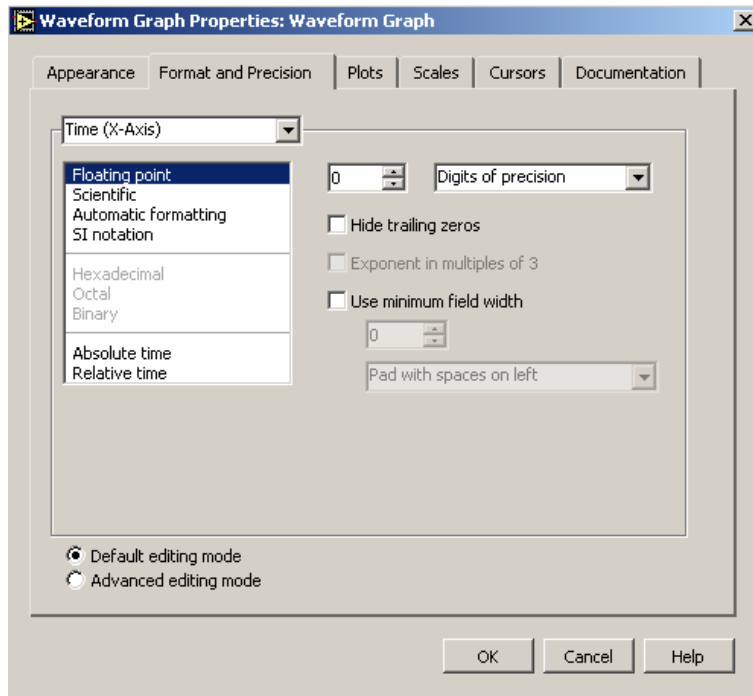

Figure 6.9: Waveform Graph Properties Window
- c. Other options/properties can be accessed by **Right-Clicking** on the **Graph** → **Properties**, which brings up set of menus including: **Appearance**, **Format and Precision**, **Plots**, **Scales**, **Cursors (only for Waveform Graph)**, and **Documentation** as shown in **Figure 6.9**.